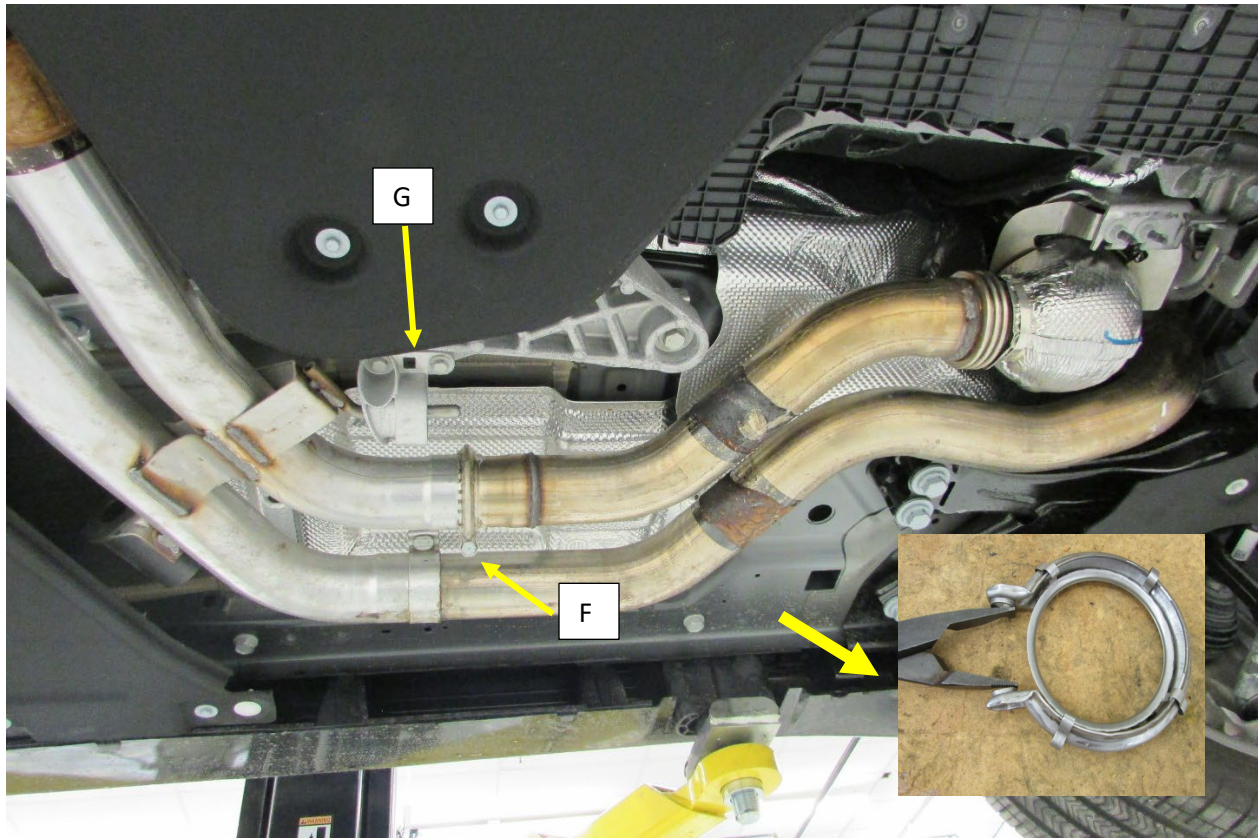

Figure.2
10. Remove the x2 bolts from the Isolator assembly (**G**) supporting the OEM mid pipe. **Fig.2**